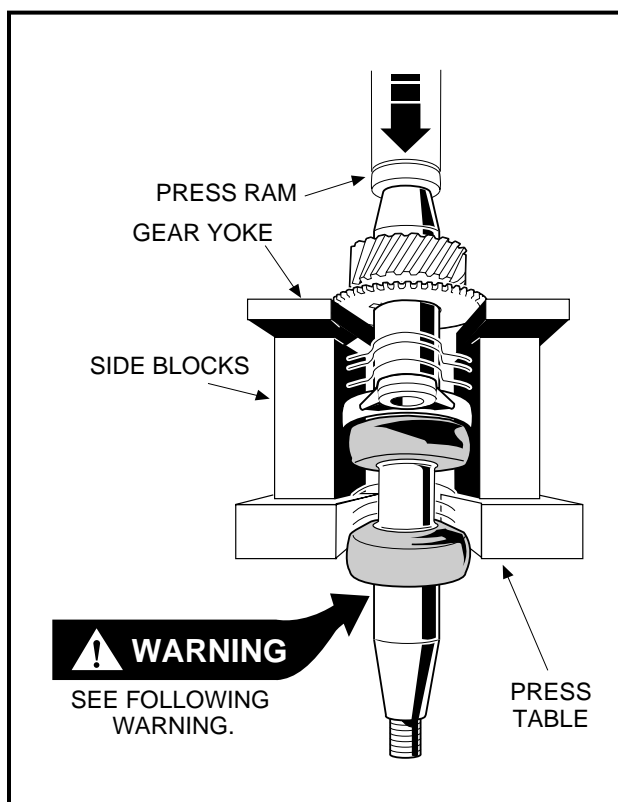

Figure 13-75 Remove Helical and Spur Gears
4. Using a press, push on the end of the crankshaft to pull the spur gear and the helical gear off the crankshaft (**Figure 13-75, Page 13-35**). **See following WARNING and CAUTION.**